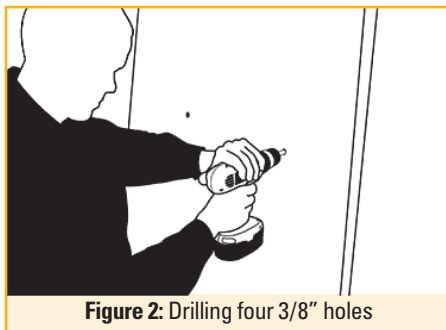

Figure 2: Drilling four 3/8" holes
3. Drill the four 3/8 inch holes as shown in Figure 2. **Note:** Drill bit needs to be long enough to go through the interior and exterior of the door. It should be both level and straight when making the holes to ensure the two frames will align properly.